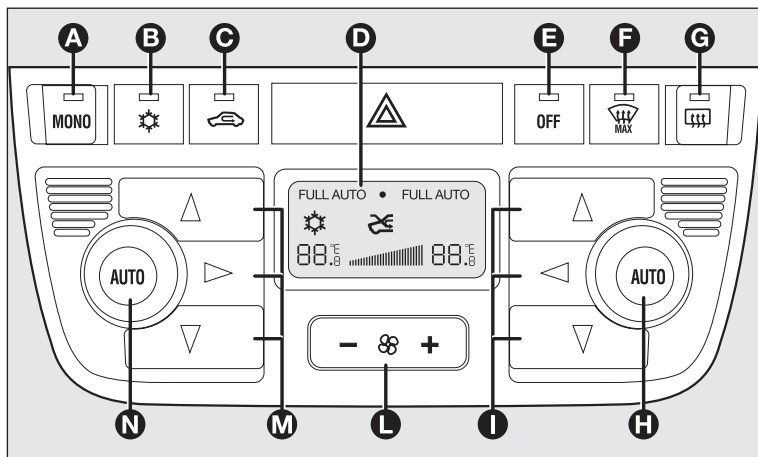

fig. 65
CONTROLS fig. 65
Separate operation of the set temperatures and air distribution is automatically restored by turning knob **H-fig. 65** or pressing button **MONO A** again when the button led is on.
- ☐ forced switching on (air recirculation always on), indicated by the turning on of the led on button **C**-fig. 65 and symbol  on the display;